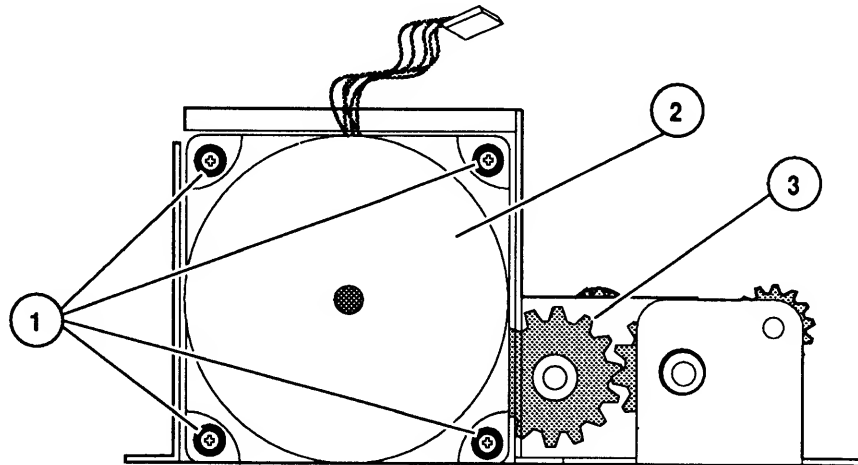

FIGURE 39
2. Remove the four Phillips screws (Figure 39, #1) that secure the main motor (Figure 39, #2) to the drive gear assembly (Figure 39, #3). Remove the main motor.